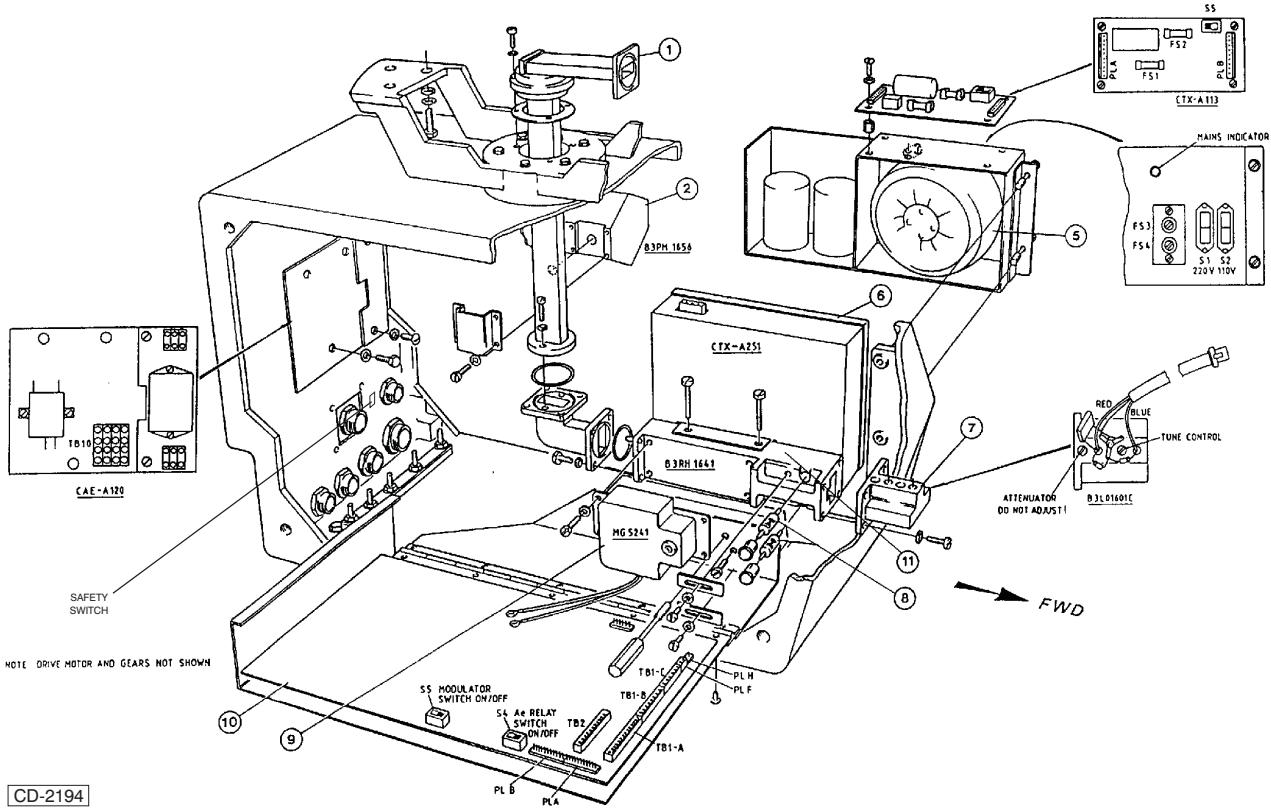

Figure 12a - Upmast X-Band Transceiver
- 40 Refer to Figure 12a for graphical aid.